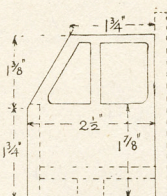

Fig. 4—Cab sides
The sides (D) of the cab are next to be made, and Fig. 4 gives all the dimensions necessary for drawing one out on ½ in. wood. It should be laid on a second piece of ½ in. stuff and a pencil line made all